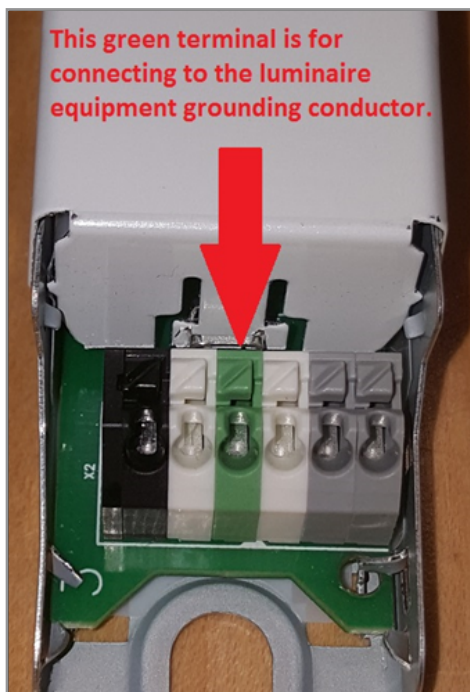

Figure 10. BSL6ST Green Terminal for Equipment Ground
- Some Bodine emergency drivers come equipped with a green terminal on their integral leadless connectors for the equipment ground (e.g., BSL6LST). This terminal should be connected to the equipment grounding conductor for the luminaire. See Figure 10 for an example.